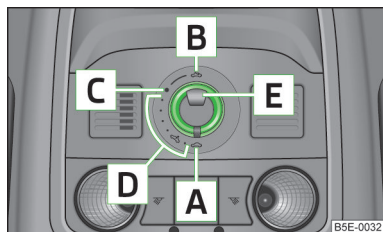

Fig. 25
- If the battery has been disconnected and reconnected, it is possible that the sliding/tilting roof does not operate correctly. Next, move the rotary switch into position **A** » Fig. 25 on page 44, pull it, and hold onto the recess downwards and forwards tightly. The sliding/tilting roof opens and closes again after around 10 seconds. Do not release the control dial until it has done so.
- Turn the switch to position **C** » Fig. 25.
- Turn the switch to position **A** » Fig. 25.